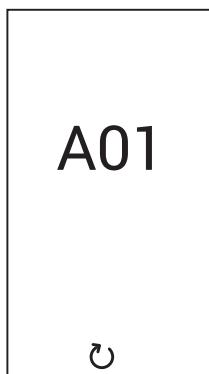

fig. 5
**Type A fault (fig. 5):** To unblock the boiler in the presence of this type of fault, press the button  until the message “**Confirm?**” appears. Then confirm with the button .